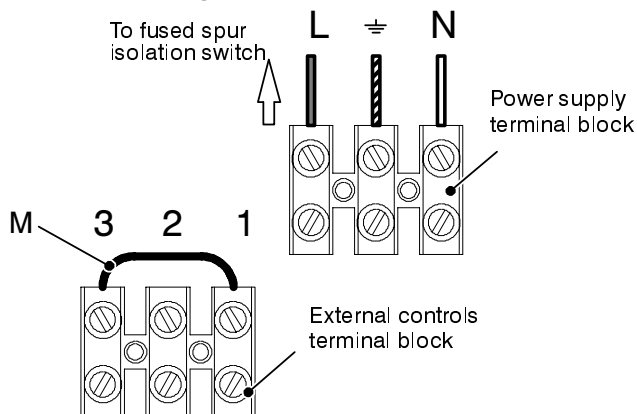

Fig. 6.14
- 6 Connect the electrical supply flexible cord coming from the fused spur isolation switch to the power supply terminal block of the boiler (Fig. 6.14) keeping the same connections for the live (brown wire) and the neutral (blue wire). External 3 A fuse or fused plug with same current rating is recommended.
When connecting any type of external control, the link M in Fig. 6.14 must be removed.